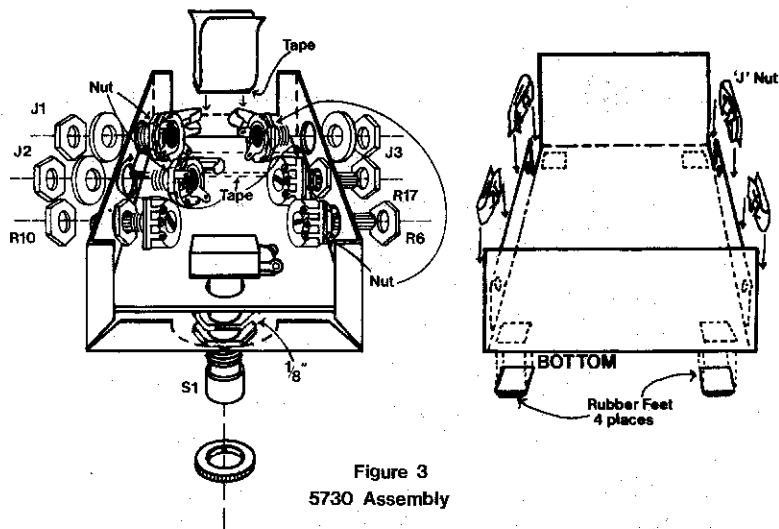

Figure 3
- () Install the longest piece of tape on the inside TOP of the case as shown in figure 3. REMOVE THE PROTECTIVE PAPER FROM ONLY ONE SIDE OF THE TAPE.
- () Locate the "U" shaped battery holder and stick the small piece of tape to the bottom of it. Remove the paper from the other side of the tape and position it to the inside of the case top as shown in figure 3.
In the following steps, when the jacks and pots are installed, one of each of the pair of nuts supplied should be threaded onto it's shaft and used as a spacer. Adjust this nut so that when the part is installed as little of the shaft as possible extends outside the case. Refer to figure 3.
- () Locate the four "J" clips and install them on the case bottom as shown in figure 3. The dome side should be toward the inside of the case.